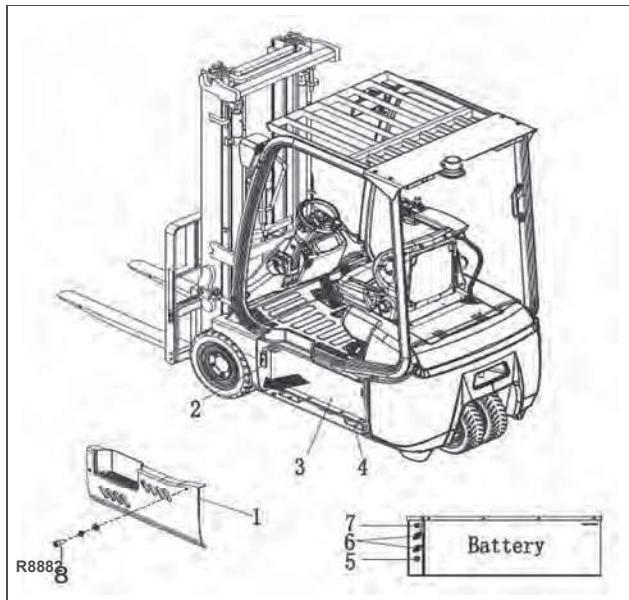

Figure 3-2 Battery
2. Remove the two screws (8, Figure 3-2) that secures the left side battery cover door (1) and remove the door.